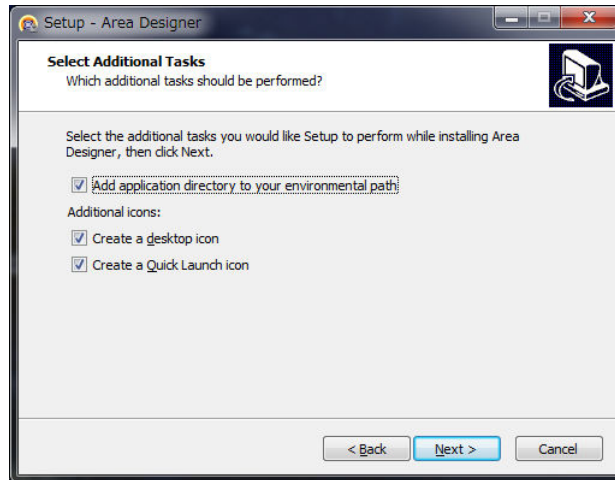

Fig 2-5 Select additional tasks
7. As shown in Fig 2-5, click next then, installation of “Area Designer” will start.